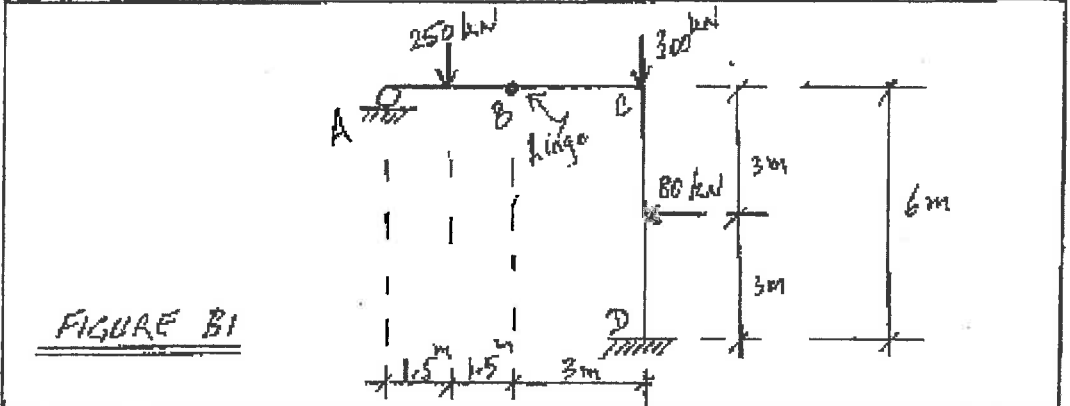

FIGURE B1
- B1. Figure B1 shows a loaded reinforced concrete determinate frame. Determine the dimensions of a rectangular cross-section and the required amount and layout of steel reinforcing for member ABC, to satisfy both moment and shear requirements. Use  $f'_c = 35$  MPa and  $f_y = 400$  MPa.
- B2. Design the column CD for the reinforced concrete frame in Fig. B1. The column can be assumed short. Use  $f'_c = 35$  MPa and  $f_y = 400$  MPa.